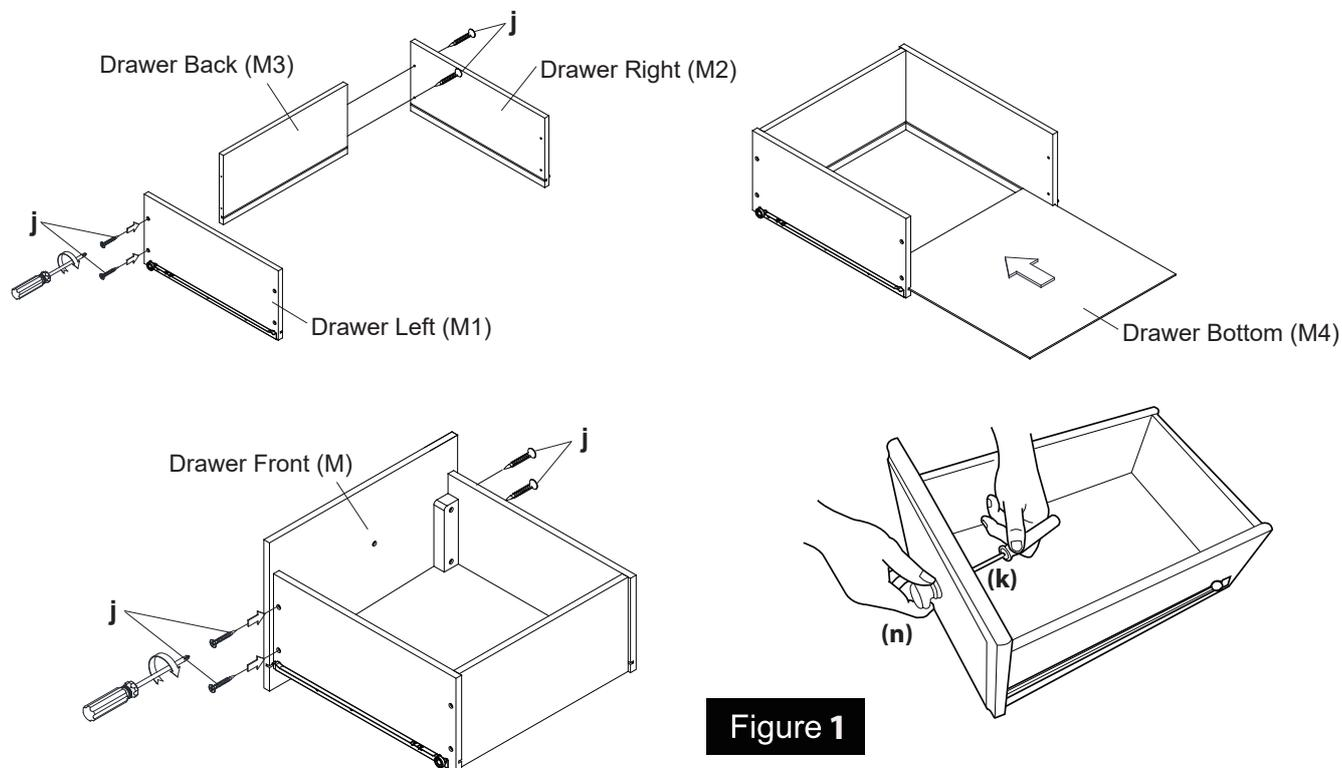

Figure 1
STEP 1 Drawers Assembly as Shown on Figure 1.
- C.** Install Screws (e) into Drawer Sides (M1&M2) and align with pilot holes located in the mounting blocks of Drawer Front (M) .Tighten using Phillips screw driver(not included) .
- E.** Repeat for all drawers. Set drawers aside for later use. See Figure . 1
1. Locate safety belt bolted to dresser top. Insert safety belt through slit in changing pad from back of pad. **Figure 1.**